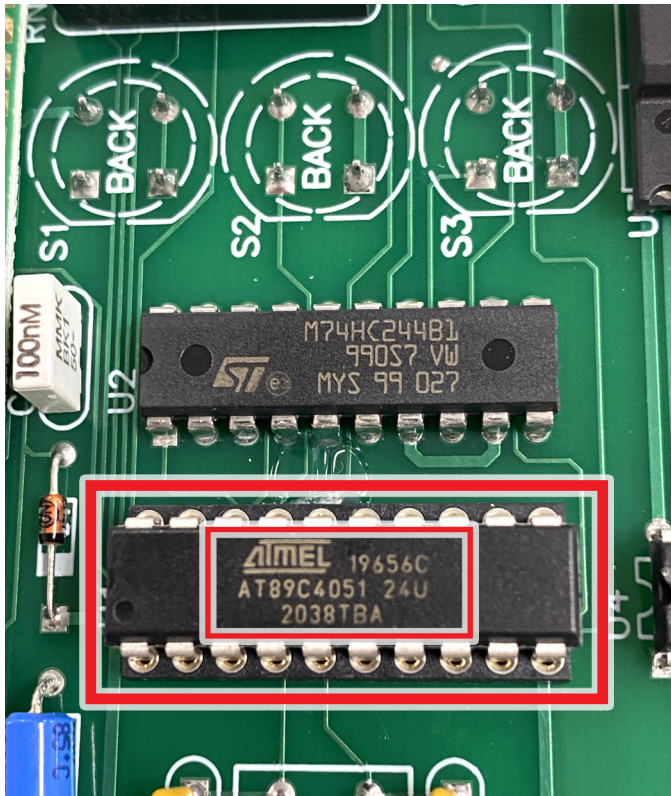

FIGURE 4—The original DRO chip is circled in red. Note the orientation of the printed text on the chip.
4. The DRO chip is circled in Figure 4 on the following page. Note the orientation of the original chip that is mounted to the board. The new chip must be mounted to the board with the letters and numbers facing in the same direction. If you mount the new chip in the opposite orientation, the DRO will not work.